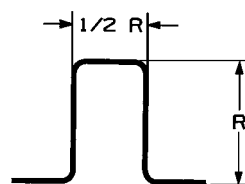

Fig. 1
Normally, piping systems are designed with sufficient directional changes which provide inherent flexibility to compensate for expansion and contraction. However, when this is not the case or when there is reasonable doubt as to the adequate flexibility of the system, expansion loops or expansion joints should be designed into the system. If an expansion loop (which is fabricated with 90° elbows and straight pipe as depicted in Fig. 1) is to be used, the leg length (R) should be determined by using the following formula to ensure that it is of sufficient length to absorb expansion and contraction movement without damage.